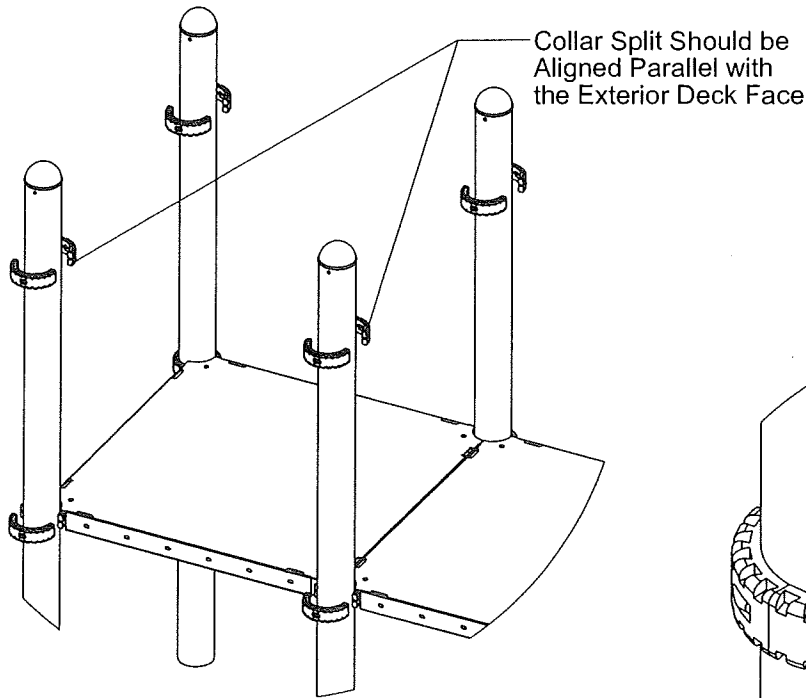

FIGURE 3
- (A) Use liquid thread lock (such as Loctite®) with all threaded hardware. **Important:** Liquid thread lock (prior to curing) helps to eliminate the common problem of "thread seizure" in stainless steel hardware by serving as a lubricant during assembly.
- (B) See component assembly instructions for collar heights and locations.
- (C) The Collar splits should be aligned parallel with deck faces and should always be parallel to the collars of the same component. (See Figure 3)
Locate and mark the position of the collar on the support post, place in the correct position and attach as shown in Figure 1 using the tools shown in Figure 2. (See Figure 3 and 4 and Notes A, B, C and D)